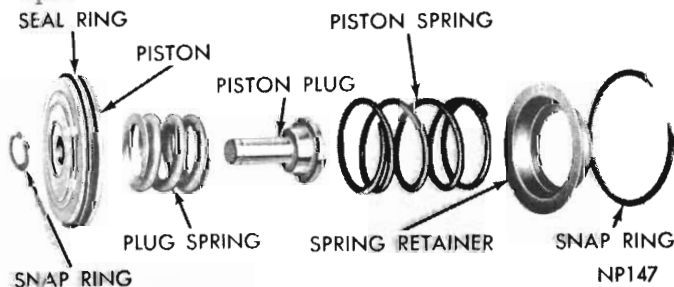
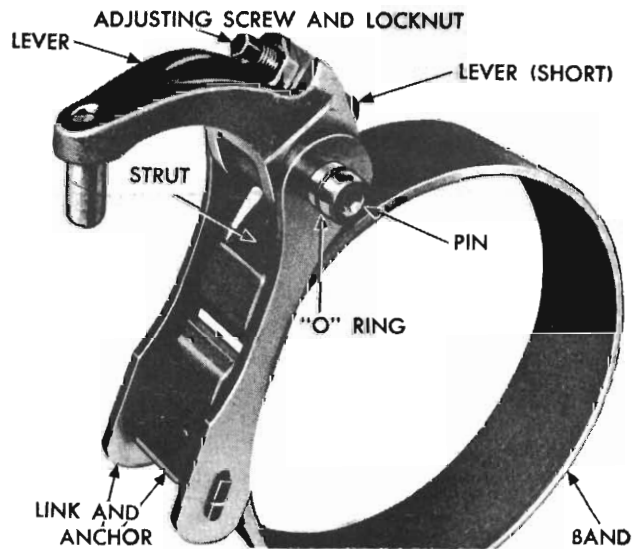

Fig. 96 - Low and reverse servo
Fig. 98 - Low-reverse band and linkage
(1) Remove snap ring from piston and remove the piston plug and spring (Fig. 96).
(1) Carefully work servo piston assembly into the case with a twisting motion. Place spring, retainer and snap ring over the piston (*Fig. 96*).
(2) Compress low and reverse servo piston spring by using engine valve spring compressor Tool E0092, then install snap ring.
(3) Position rear band in the case, install short strut, then connect long link and anchor to the band (*Fig. 98*). Screw in band adjuster just enough to hold strut in place.